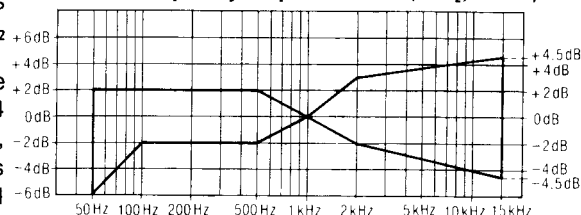

Fig. 14
8. Change test tape to CrO2 reference blank test tape (QZZCRX), and record 1kHz, 50Hz, 100Hz, 200Hz, 500Hz, 4kHz, 8kHz, 10kHz and 15kHz signals. Then, playback the signals and check if the curve is within the limits shown in the overall frequency response chart for CrO2 tapes (fig. 14).
9. Change test tape to metal reference blank test tape (QZZCRZ), and record 1kHz, 50Hz, 100Hz, 200Hz, 500Hz, 4kHz, 8kHz, 10kHz, 12.5kHz and 15kHz signals. Then, playback the signals and check if the curve is within the limits shown in the overall frequency response chart for metal tapes (fig. 14).